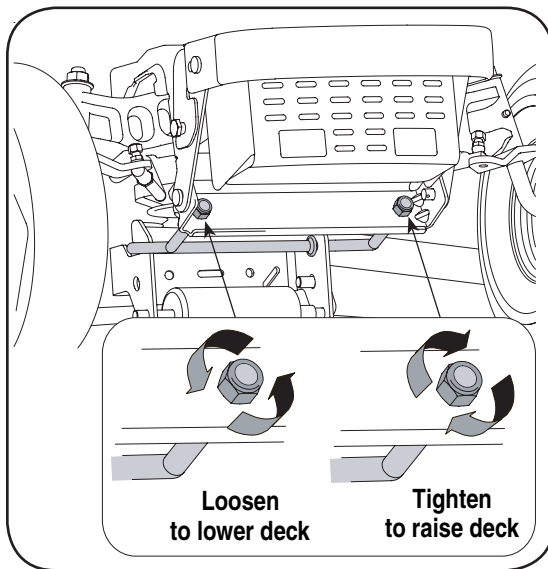

Figure 5-1
3. From the front of the tractor, loosen the hex lock nut on each end of the deck hanger rod, and turn away from the inner hex nuts. See Fig. 5-1.